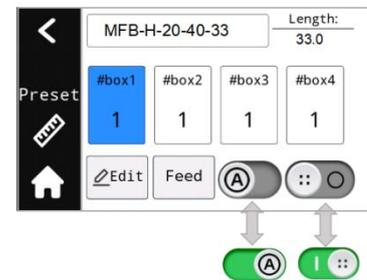

Figure 5a
- 1) Tap  on the home page to enter the mode. (Figure5a)